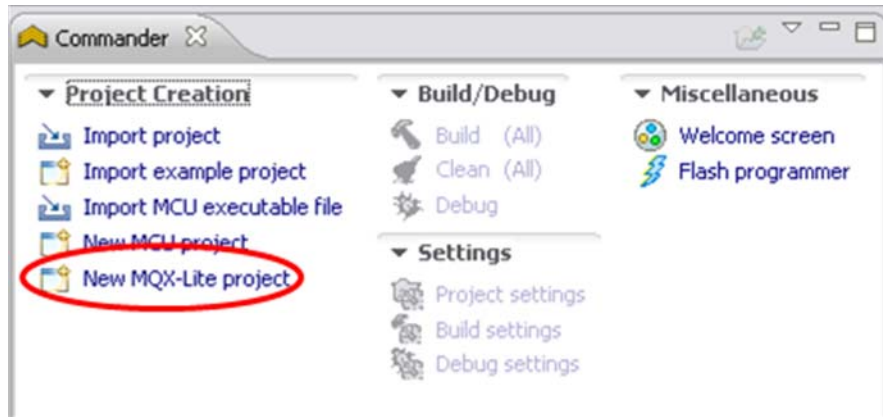

Figure 3. Commander window
1. The Commander window includes an option to create a new project for MQX-Lite. Figure 3 shows this option.